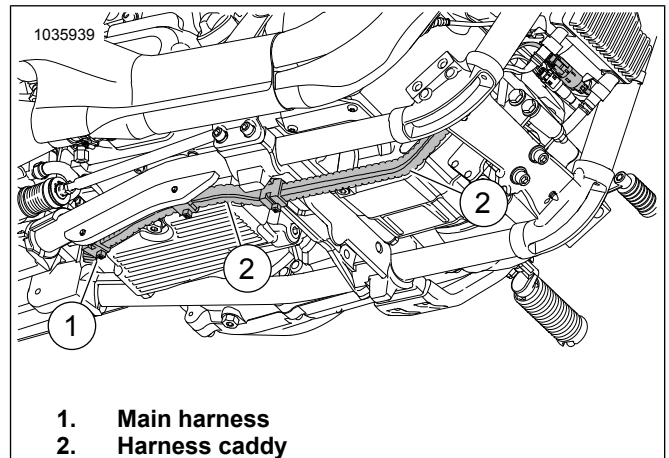

Figure 44. Harness Caddy
14. See Figure 44. **Front oxygen sensor (long harness lead):**
- b. Locate main harness (1) leading to harness caddy (2).
- c. Route harness along main harness caddy (2) toward the front oxygen sensor connector.
- e. Secure harness to inboard side of harness caddy (2) with cable straps as needed.